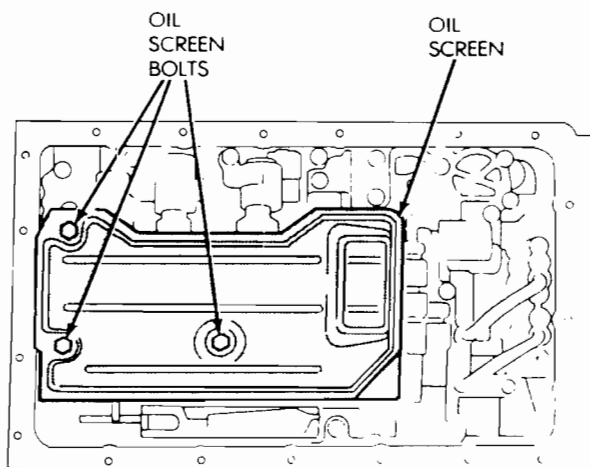

Fig. 6 Oil Screen Removal/Installation
- (1) Remove transmission oil pan drain plug and drain fluid.
- (2) Remove pan bolts and remove oil pan.
- (3) Remove oil screen bolts and remove screen (Fig. 6) and gasket. Discard the gasket.